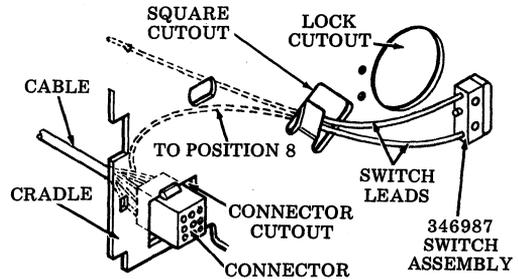

Fig. 9—Installation of Switch
2.12 With the 346987 switch assembly on the side of the cradle opposite the cable (see Fig. 9), feed the two (2) switch leads through the square cutout in the cradle between the connector cutout and the lock cutout. Connect one lead to the removed terminal and the other lead to position eight (8) in the connector. See Fig. 9.